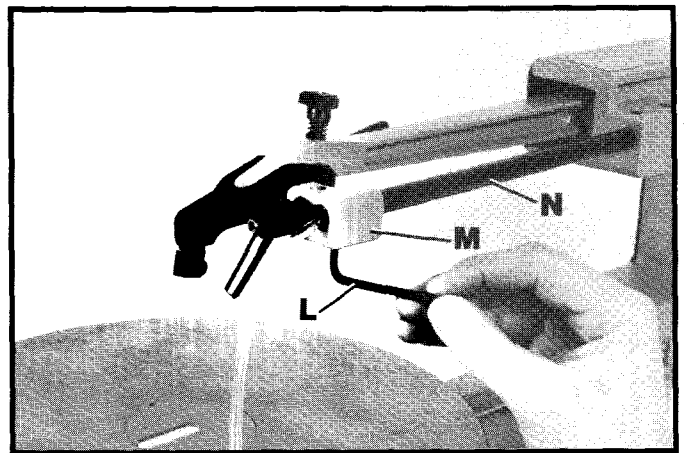

Fig. 8
6. Using the wrench (L) Fig. 8, supplied, loosen the two screws on bottom of bracket (M) that fasten bracket to rod (N).